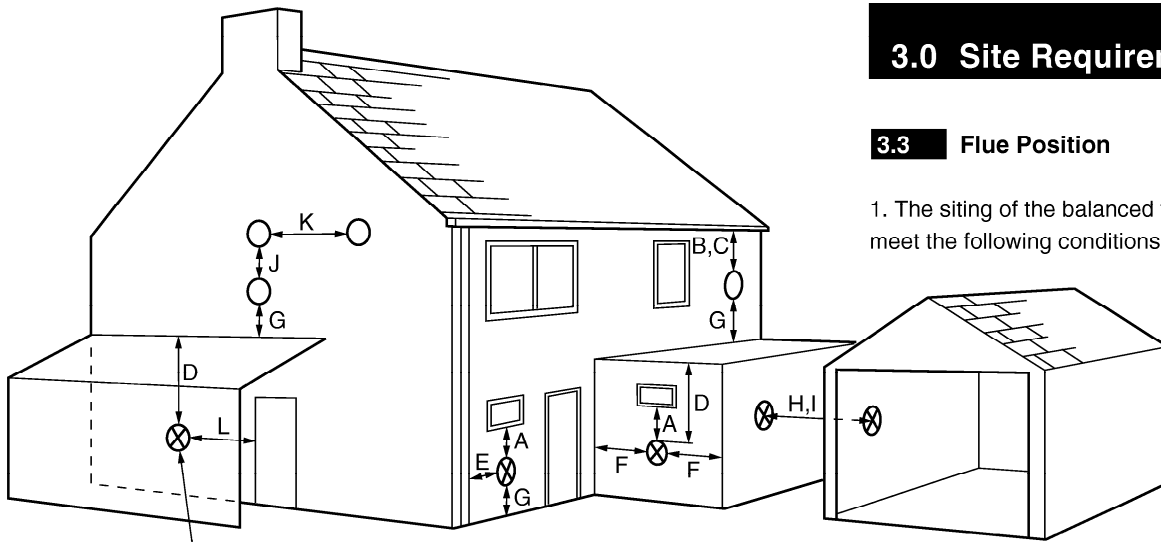

Fig. 4 Likely flue positions requiring a flue terminal guard
2. Fig. 4 shows the positioning of the flue terminal relative to buildings and other structures.